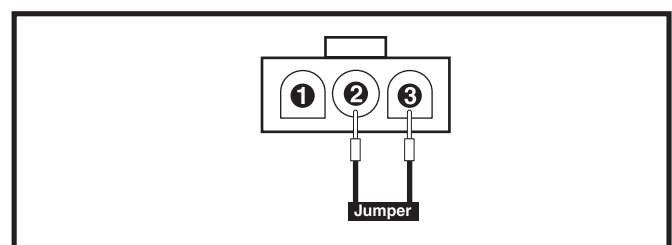
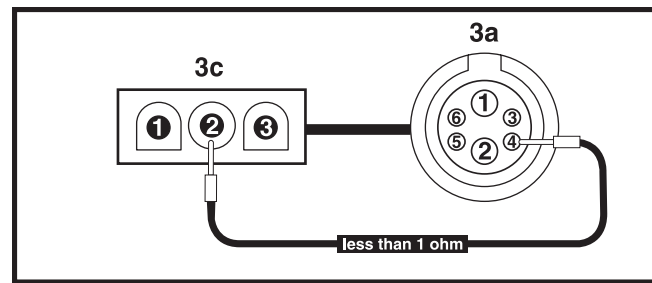

Figure 16. Connector 3b - Jumpered
Figure 17. Connectors 3b and 3a
8. Place a jumper into pin 2 and pin 3 on connector 3b, then try to operate the chair. **See figure 16.**
- *If the power chair operates*, then replace the charger interface harness (7) and retest the system.
9. Unplug connector 3c from the power module (4).
10. Measure resistance across pin 2 on connector 3b and pin 4 on connector 3a. **See diagram 2 and figure 17.**